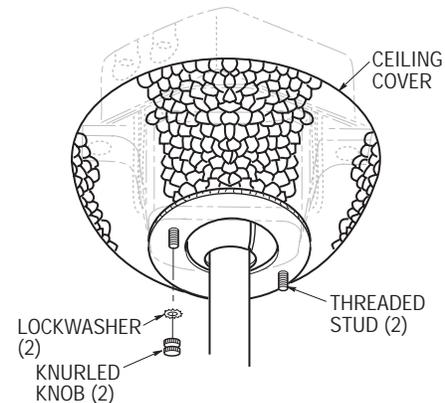

Figure 14
- 6. Secure the ceiling cover in place by sliding lockwashers (supplied) over the threaded studs and installing the two knurled knobs (supplied). (Figure 14). Tighten the knurled knobs securely until the ceiling cover fits snugly against the ceiling.